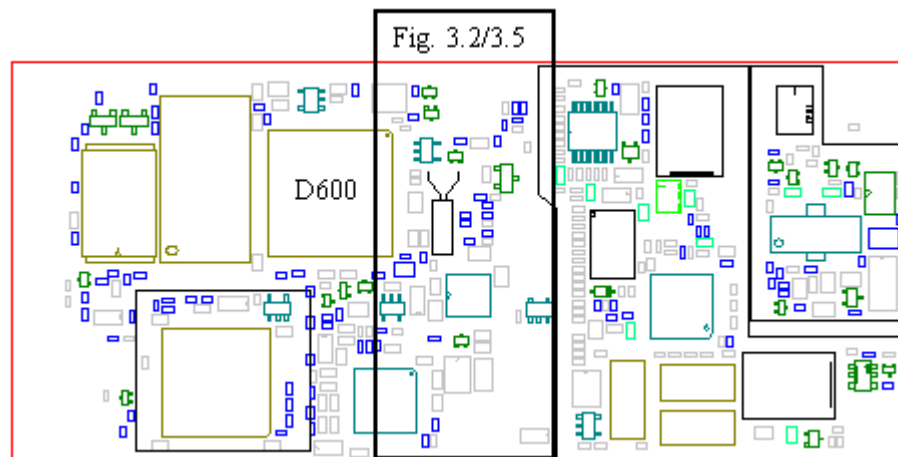
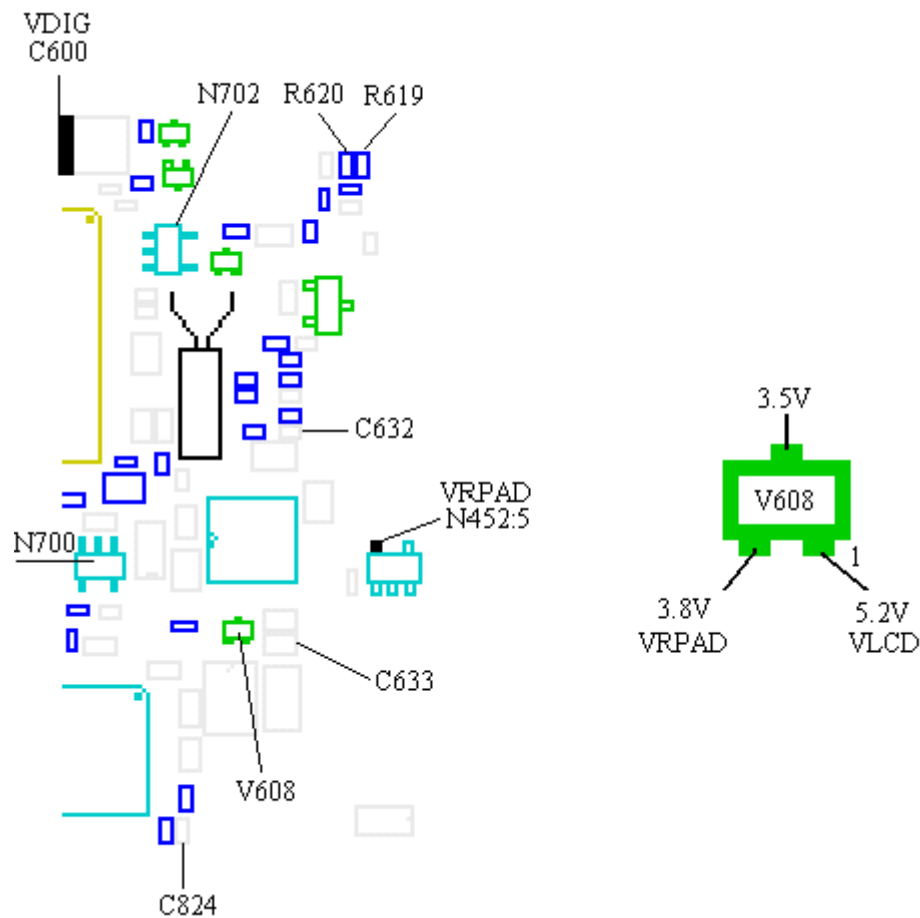
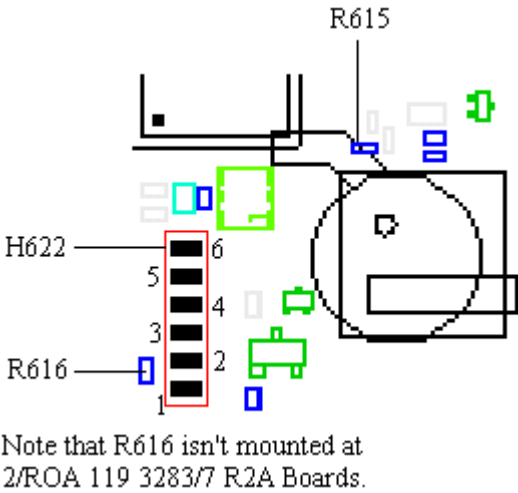
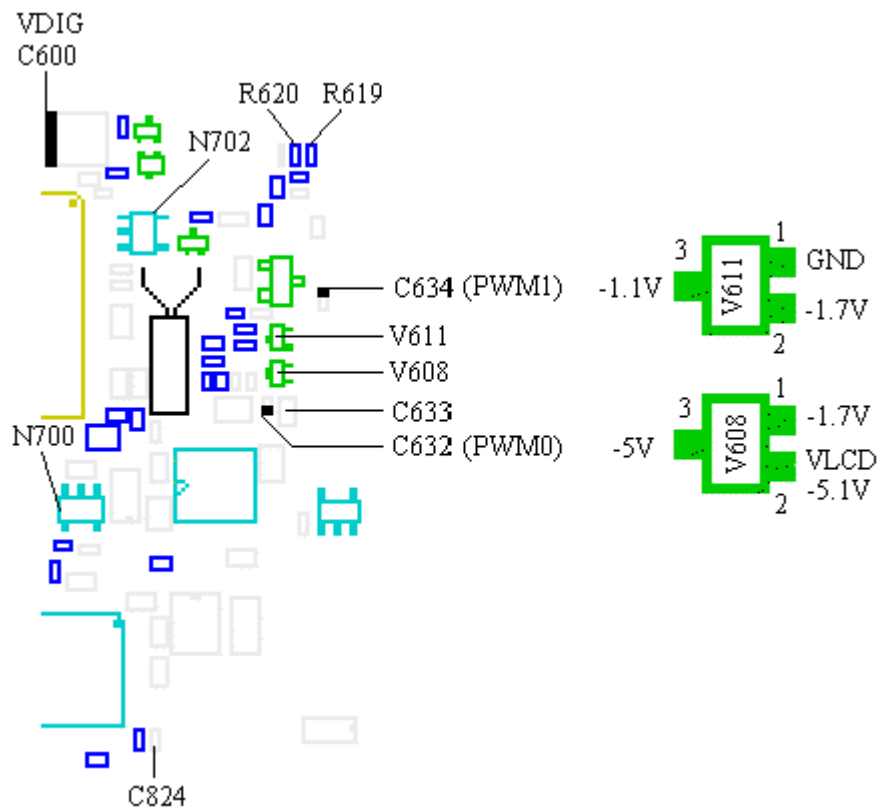

Fig. 3.1
Fig. 3.2
Fig. 3.4
Fig. 3.5
The component side of the board is shown in fig. 3.1.
Measure the voltages at the V608 (class A) diode. Compare the result to the values in fig. 3.2.
If any of the voltages are incorrect, measure the resistance of C633 (class A, >100 kohms, fig. 3.2) and C824 (class A, >25 kohms, fig. 3.2).
- Replace C632 (class A, fig. 3.2) and measure the voltages at V608 again. If the voltages still are incorrect, replace D600 (class B, fig. 3.1).
If the voltages at V608 are correct but the display is totally empty when phone is on, measure the voltages at the display pads, H622 (fig. 3.4):
If I²C-DATA or I²C-CLOCK voltage is missing, check VDIG at C600 (~3.2V, fig. 3.2).
- If VDIG is correct, measure the resistance of R619 (class A, 2.2 kohms, fig. 3.2), R620 (class A, 2.2 kohms, fig. 3.2), R615 (class A, 10 kohms, fig. 3.4) and R616 (class A, 10 kohms, fig. 3.4). Make sure the solderings at D600 pads 3 and 4 (fig. 3.1) are correct.
Measure the voltages at the V608 (class A) and V611 (class A) diodes. Compare the result to the values in fig. 3.5.
If any of the voltages are incorrect, measure the resistance of C633 (class A, >100 kohms, fig. 3.5) and C824 (class A, >25 kohms, fig. 3.5).
- Replace C634 and C632 (both class A, fig. 3.5) and measure the voltages at V608 and V611 again. If the voltages still are incorrect, replace D600 (class B, fig. 3.1).
- If I²C-DATA or I²C-CLOCK voltage is missing, check VDIG at C600 (~3.2V, fig. 3.5).
- If VDIG is correct, measure the resistance of R619 (class A, 2.2 kohms, fig. 3.5), R620 (class A, 2.2 kohms, fig. 3.5), R615 (class A, 10 kohms, fig. 3.6) and R616 (class A, 10 kohms, fig. 3.6). Make sure the solderings at D600 pads 3 and 4 (fig. 3.1) are correct.
Check the VDIG and VANA feed voltages (~3.2V, fig. 3.2 or 3.5).